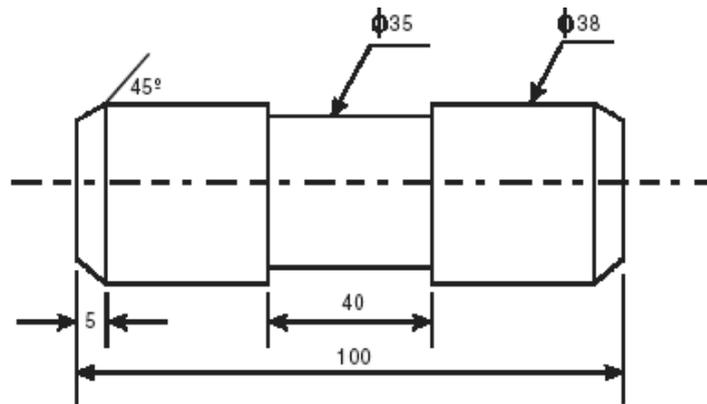

Figure 12
9. a) A mild steel bar 100mm long and 40mm in diameter is turned to 38mm diameter and was again turned to a diameter of 35mm over a length of 40mm as shown in Figure 12. The bar was chamfered at both the ends to give a chamfer of $45^\circ \times 5\text{mm}$ after facing. Calculate the machining time. Assume cutting speed of 60m/min and feed 0.4mm/rev. The depth of cut is not to exceed 3mm in any operation.